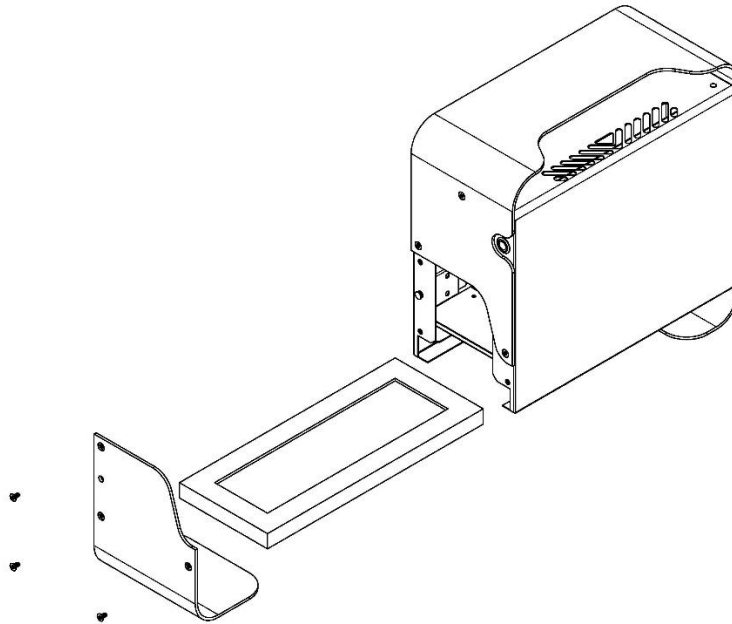

Figure 6
- 2.) Using a torx (star) bit screwdriver, remove the (3) screws attaching filter door to the side of the unit. See Figure 6.